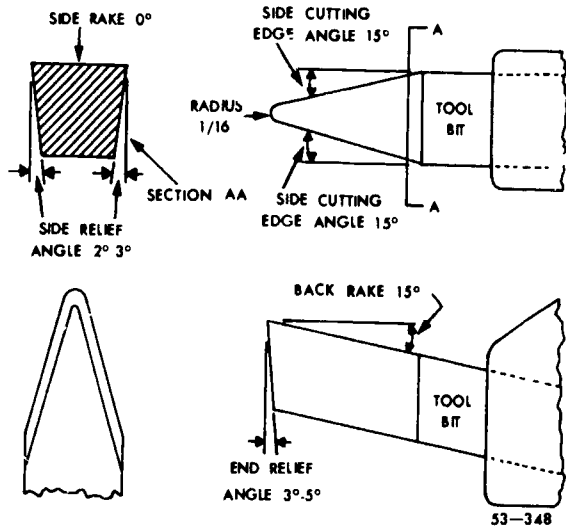

Figure 2-5 Roundnose tool angles
**Roundnose.** The roundnose tool, shown in figure 2-5, has  $0^\circ$  side rake, and cutting edges on both sides. These enable it to cut in both directions. You can use it to rough out metal between two shoulders.